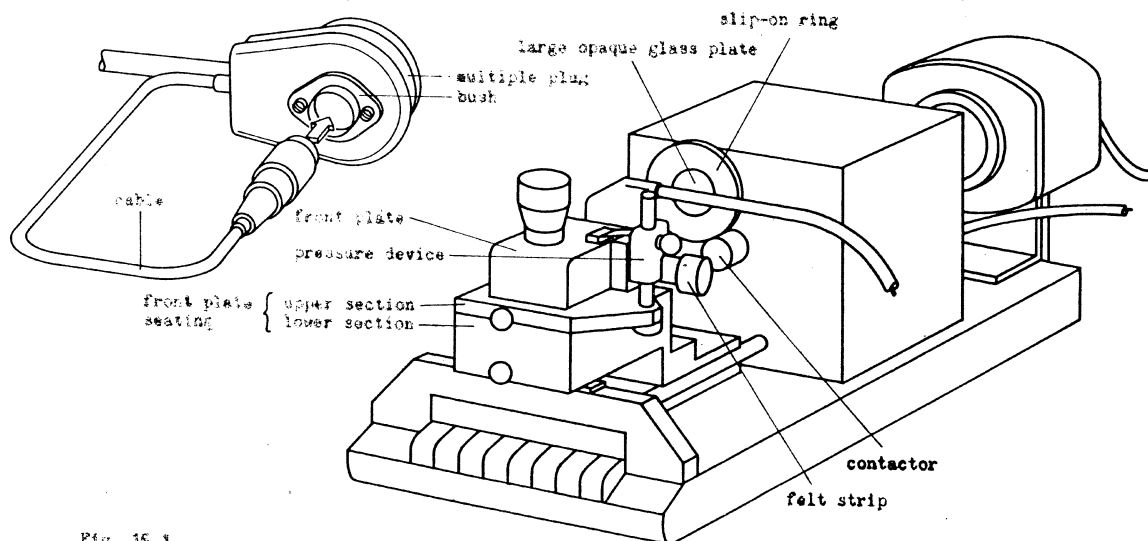

Fig. 15.1
Calibrate the test lamp and reading instrument with resistance preselection (see Calibrating Instructions, Spare Parts List for the Leica M2, Sheet 6). Replace the black square engraved 8V / 8SV on the front plate of the reading instrument by the plate engraved 8S. Connect the short cable of the multiple plug with the socket screwed onto the multiple plug (see Fig. 15.1). Remove the motor cover and the spool cover. Unscrew a hexagon nut with the 5 mm spanner (see Fig. 77.1). Unscrew two cylindrical head screws with the screwdriver 3,5 ϕ . Remove front plate. Unscrew the battery knob on the front plate, take out the battery. Set film speed of 15 $\circ$ DIN on the DIN ring of the illuminating optics. Rotate the illuminating optics anti-clockwise until the red line is situated a few mm from the red circle. Turn the illuminating optics back until they engage. Place front plate seating of test light on to felt strip over keys (see Fig. 15.1). Pull contactor in direction of indicator (1). Place front plate on to front plate seating and position by depressing pressure device. Push contactor in direction of arrow (2) and secure.
Fit slip-on ring on to the large opaque glass plate (see Fig. 15.1). Raise upper part of front plate seating by manipulating the button and tilt it towards the stop. Set the setting knob on the face of the indicator instrument to adjustment R1.